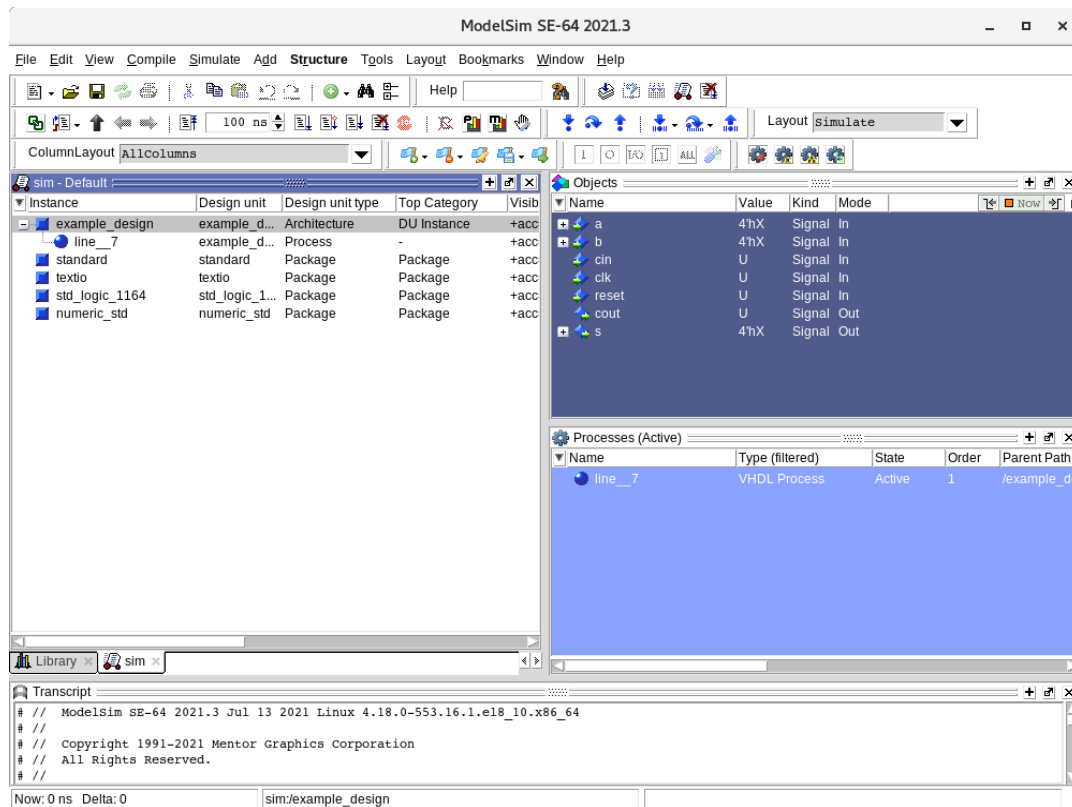

Figure 7 Modelsim simulation window
15. The window now change to look like Figure 7, "Modelsim simulation window".